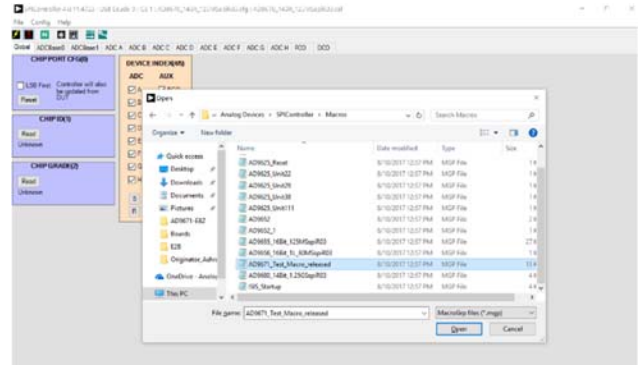

Figure 10. SPI Macro File Select Dialog Box
- In the main **SPIController** window, click **File**, then click the **MacroGroup Open** command, and select the **AD9671\_Test\_Macro\_released.mgp** file (see Figure 10).